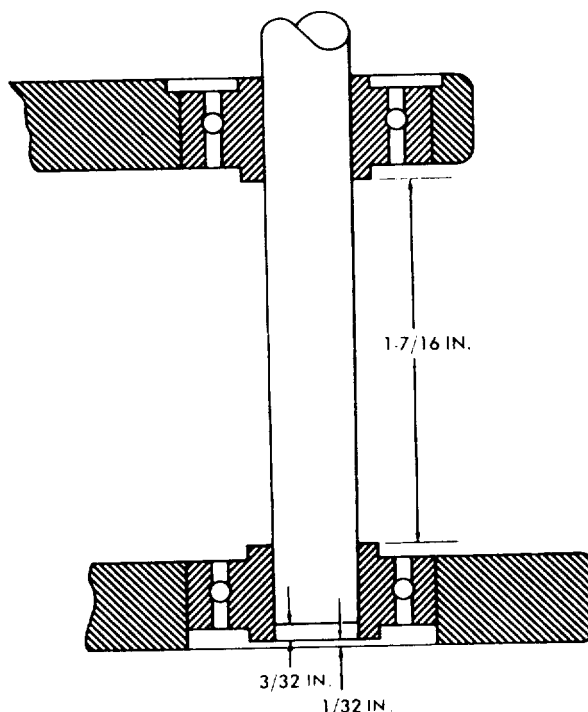

Figure 14. Gear and clutch assembly bearing clearances.
(3) Inspect clutch parts for damage or excessive wear. Replace individual gear and clutch assembly if defects are noted.
(4) Check for proper bearing clearances as shown in figure 14. Replace gear and clutch assembly if proper clearances cannot be obtained.